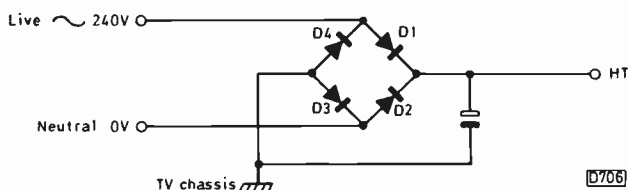

Fig. 1: Mains-fed bridge rectifier circuit. In the UK, the neutral side of the mains supply is earthed at the sub-station transformer.
Consider the basic circuit shown in Fig. 1 – typical of a full-wave input bridge arrangement less switches, fuses etc. When the live mains supply line swings positive with respect to neutral, D1 conducts to charge the reservoir capacitor while D3 conducts and connects the chassis to neutral. That's the good news.
**Set won't start:** Check that R630 is 1k $\Omega$  and not 470 $\Omega$ . Change as necessary. This resistor is not identified in Fig. 1 (September 1983 issue). It's the one that biases the 3.9V zener diode D605 (top one).